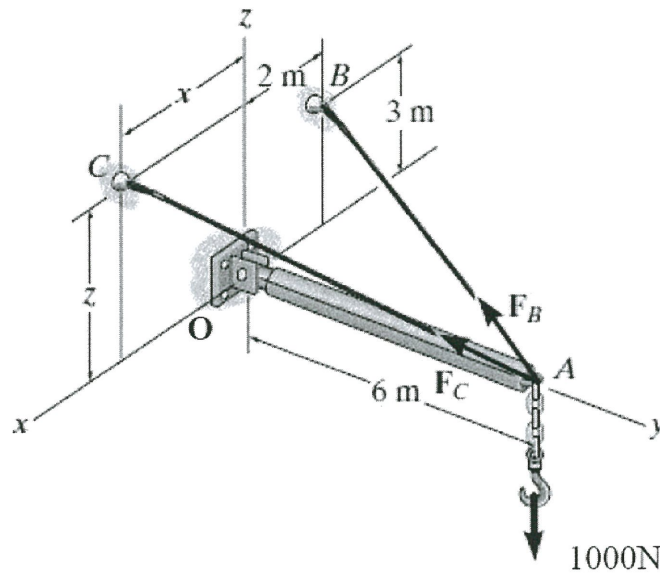

FIGURE Q2
- Q2** **Figure Q2** shows two cables are used to secure the overhang boom in position and support the 1000N load.